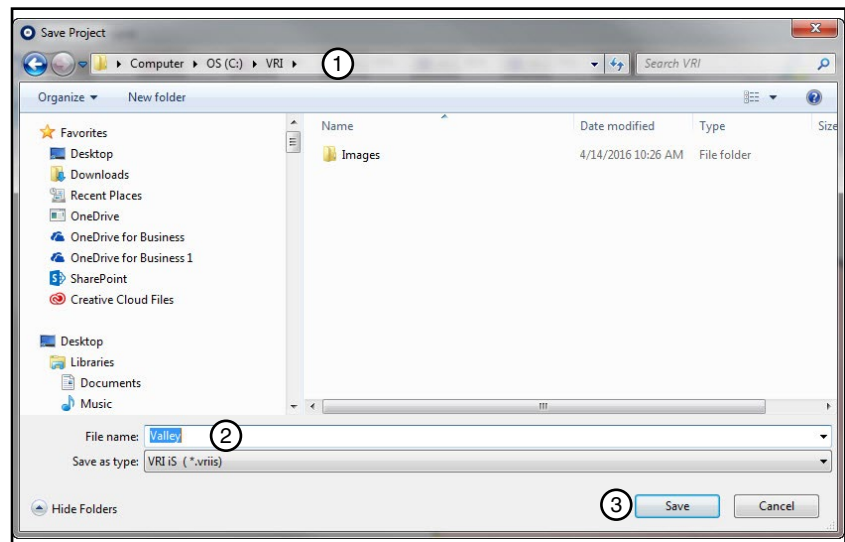

Figure 27-2 1. Folder Name
2. Locate the folder in which you want to save the project, give the file a name, and click **Save**. See Figure 27-2.